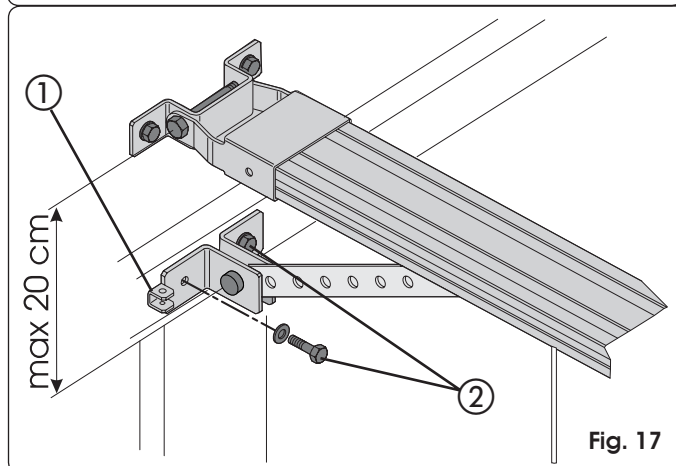
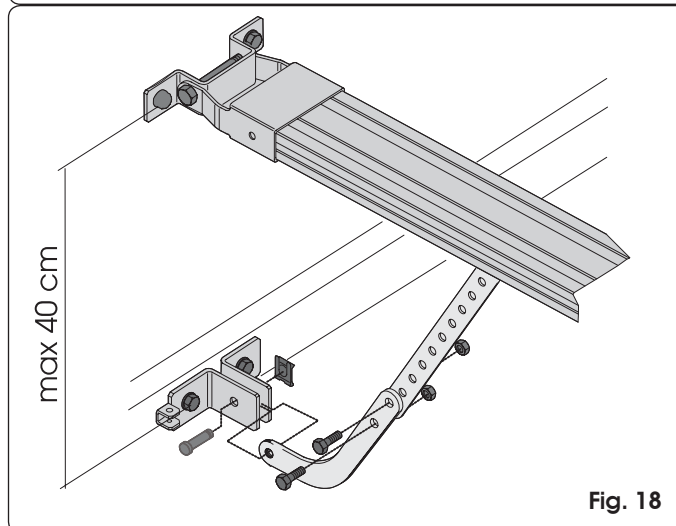

Fig. 17
Fig. 18
- 2) Position the fitting on the door so that the through-element of the release cable is facing toward the left side of the door (ref. ① Fig. 17).
- 5) Make sure that the distance between the between-centres of the front fitting and the on-door fitting does not exceed 20 cm (Fig. 17). To ensure correct operation of the automated system, we advise you to avoid arm inclinations of over 30° compared to the sliding guide. If using the curved arm for sectional doors (optional), carry out the assembly with the straight arm of the carriage as shown in Fig. 18. To improve efficiency of the anti-crushing system, we advise you to secure the fitting on the sectional door as low as possible, without, however, exceeding the distance of 40 cm from the operator's front fitting.
- 6) Mark, drill and secure the fitting to the door, using the screws (ref. ② Fig. 17) **NOT** supplied.